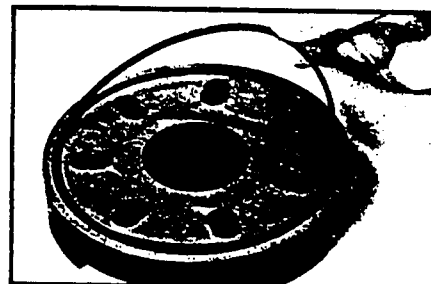

Figure 54
20. Apply a small amount of clean grease to a seal ring (5) and insert the seal ring into the end cover (3) seal ring groove. SEE FIGURE 54.